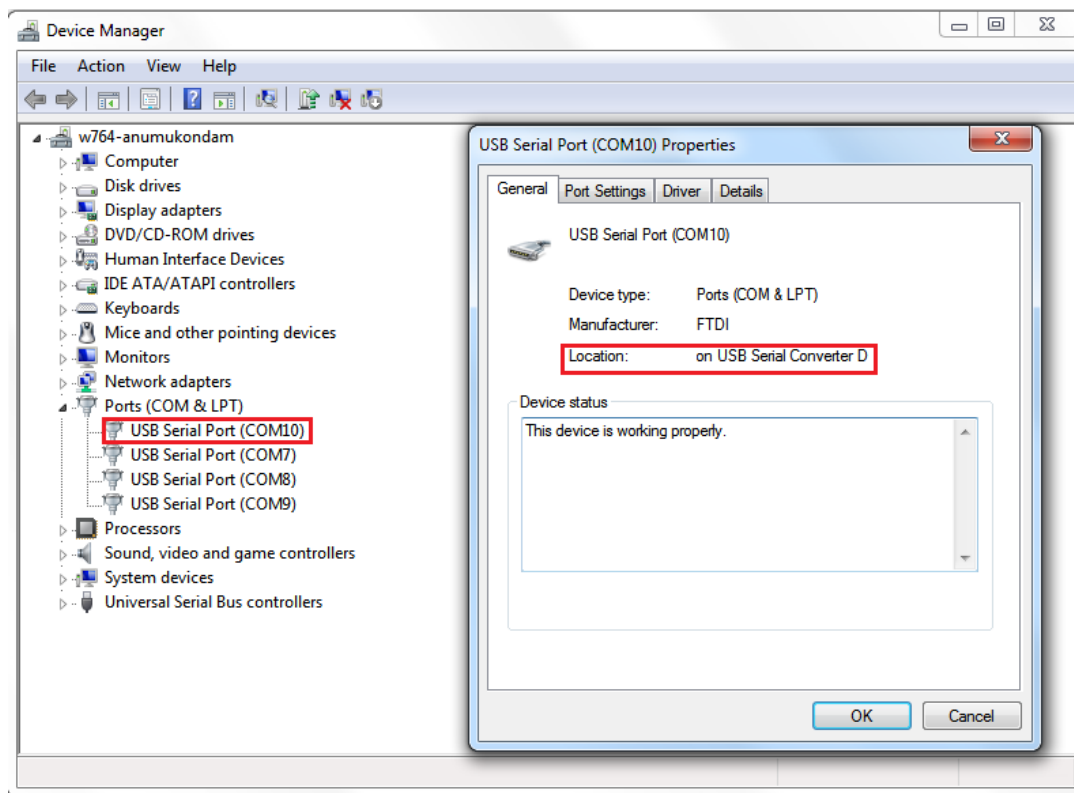

Figure 8 • USB Serial Port Properties Window
5. Connect the other end of the USB cable to the host PC. Ensure that the USB to UART bridge drivers are automatically detected. This can be verified in the Device Manager of the host PC. The FTDI USB to UART converter enumerates four COM ports. Note down the USB Serial Converter D COM port number to use it in the HyperTerminal. Figure 8 shows the USB Serial port properties. As shown in Figure 8, COM10 is connected to USB Serial Converter D.